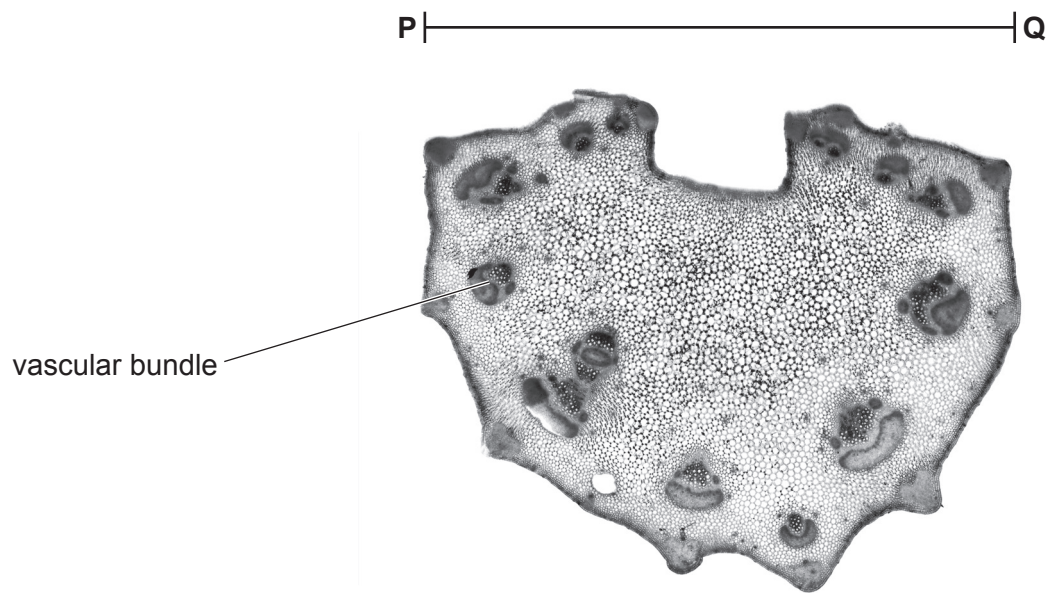

Fig. 2.1
- 2 Fig. 2.1 is a photomicrograph of a cross-section of a stalk of celery, *Apium graveolens*.
- (a) (i) Draw a large diagram of the celery stalk in Fig. 2.1.
- (ii) Line **PQ** on Fig. 2.1 represents the width of the celery stalk cross-section.
Measure the length of line **PQ** on Fig. 2.1.